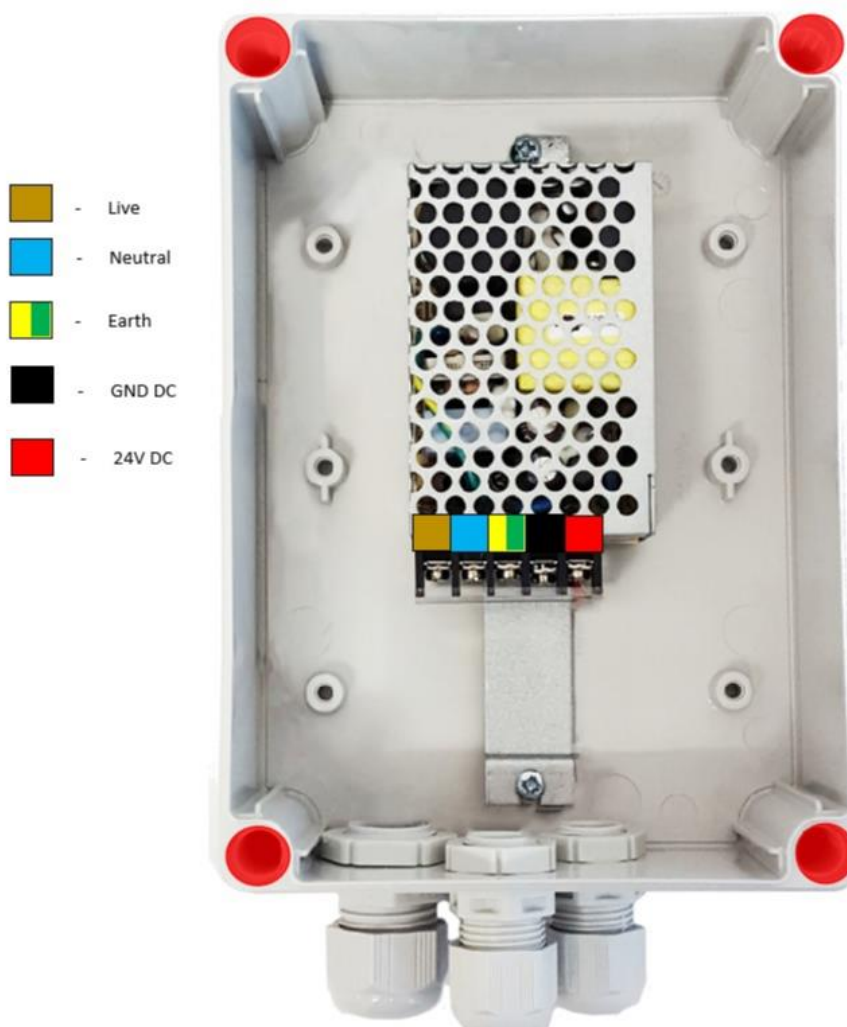
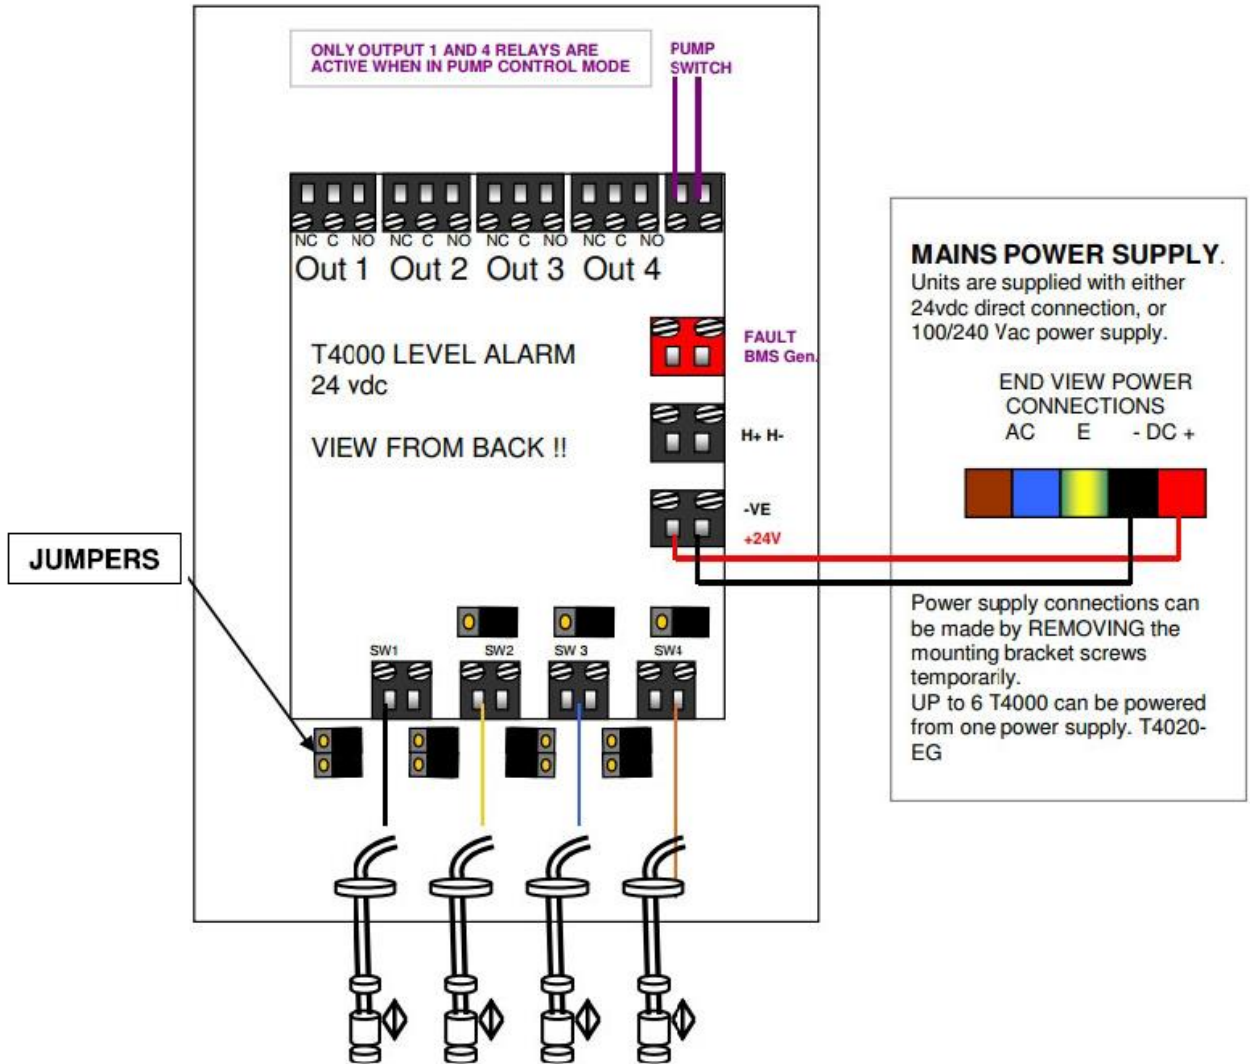

Figure 1
Figure 2
See **Figure 1** the distance between mounting holes is 110mm wide X 160mm high.
The T4000 has the option of coming with a **240vac to 24vdc PSU** as shown below in **Figure 1**, if a PSU is supplied then 240vac should be wired into the LNE terminals, the output of the PSU is 24vdc and the **+ -** terminals should be wired to the **+ -** terminals of the T4000 as shown in **Figure 2**.
- Float switches provided by OLE are Normally Closed (NC) When in the **Down** position.
- The T4000 inputs can be switched from NC to NO as required using the 2 jumpers on each circuit. **See Wiring diagram Figure 2.**
The T4000 can easily be configured to make it a pump controller by changing the position of the jumpers as shown in **Figure 2**.